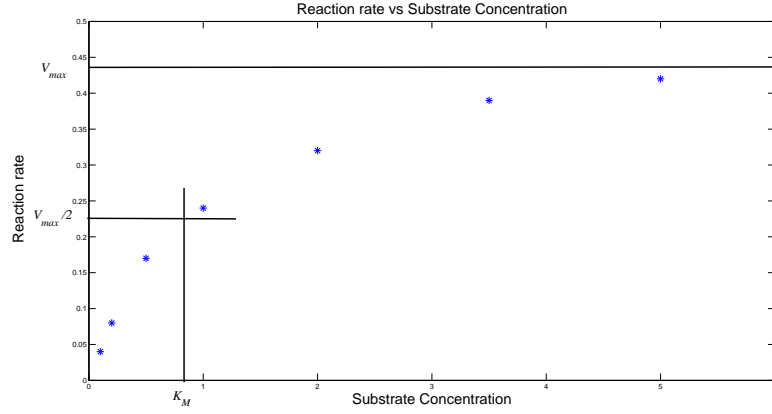

Figure 1.1 Graphical estimation of V_{max} and K_M
- 1.3** The plot indicates that the relationship between the reaction rate and the substrate concentration goes to saturation in a M-M-like behaviour, see Fig. 1.1. V_{max} and K_m are estimated as shown in the plot.